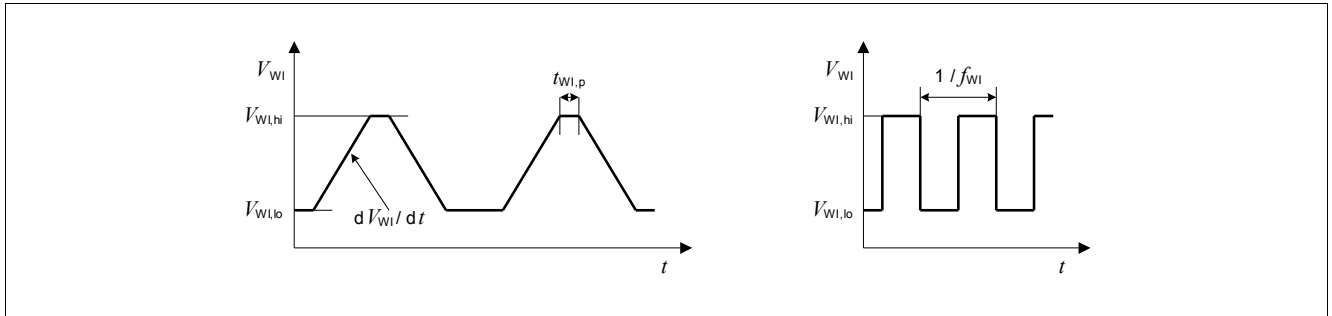

Figure 9 Test Pulses Watchdog Input WI
The watchdog is triggered by a positive edge at the watchdog input “WI”. The signal is filtered by a bandpass filter and therefore its amplitude and slope has to comply with the specification Table “Watchdog Input” on Page 25 to Table “Watchdog Input Signal Slew Rate” on Page 25. For details on the test pulse applied, see Figure 9.
3) For details on the test pulse applied, see Figure 9.